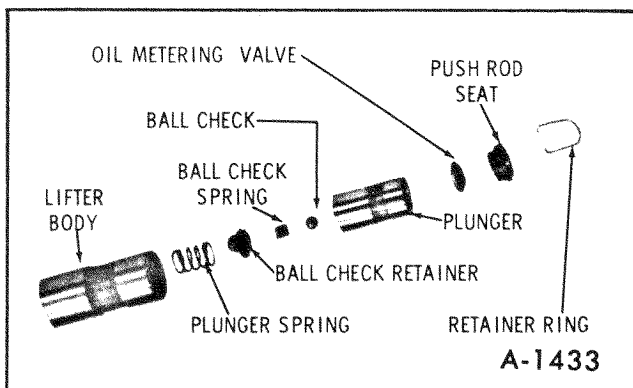

Figure 21-Valve Lifter-Exploded View
1. Assemble ball check, spring and retainer into plunger. See Figure 21. Make sure retainer flange is pressed tight against bottom of recess in plunger.